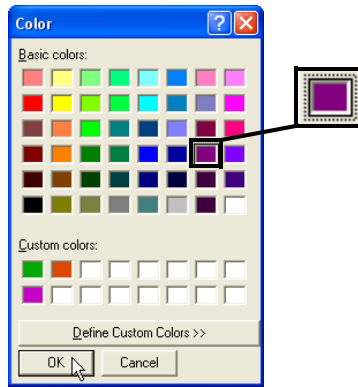

Figure 2-8. Select Layer's Color
2. Select a color from the **Color** dialog box and click **OK** (Figure 2-8 on page 2-7).